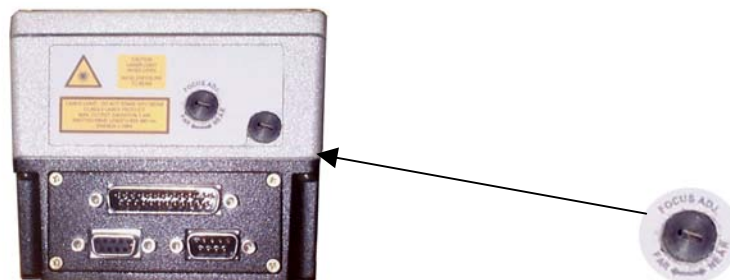

Figure 73 - Focus Adjustment Screw
The adjustment can be simply made through an external screw placed on the back of the optic HEAD and protected by a cap (Figure 73). The screw may be rotated either clockwise or counterclockwise in order to move the scanner internal lenses. In particular, a clockwise rotation causes a farther focus from the scanner, while a counterclockwise rotation causes a nearer focus to the scanner.
- 1) Remove the regulation screw protecting cap (see Figure 73) positioned on the back of the optic Head;